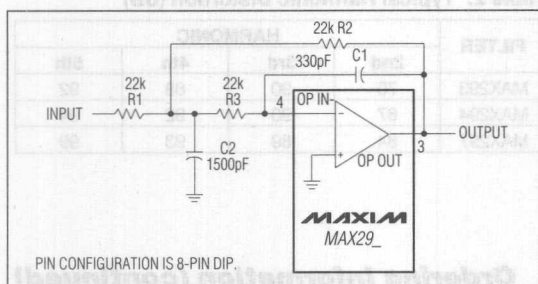

Figure 4. Uncommitted Op Amp Configured as a 2nd-Order Butterworth Lowpass Filter ($F_0 = 10\text{kHz}$)
The uncommitted op amp has its noninverting input connected to the GND pin, and can be used to build a 1st- or 2nd-order continuous-time lowpass filter. This filter is intended for anti-aliasing applications preceding the switched-capacitor filter, but it can be used as a post-filter to reduce clock noise. Figure 4 shows one of many filters that can be built with this op amp: a 2nd-order Butterworth filter with a 10kHz corner frequency and an input impedance greater than $22\text{k}\Omega$. Table 1 gives alternative component values for different corner frequencies of the same Butterworth filter.
Table 1. Component Values for Figure 4's Filter
As the passband ripple of the MAX293/MAX294/MAX297 elliptic filters is of the order of $\pm 0.1\text{dB}$, it is normally appropriate to keep the passband errors of any anti-aliasing filter at or below this level. This is achieved by choosing the corner frequency of Figure 4's Butterworth filter (f_{cB}) to be higher than the corner frequency of the elliptic switched-capacitor filter (f_{cE}) by a factor of 2.5 or more. A factor of 5 or more is recommended to avoid problems with component tolerances, i.e. $f_{cB} > (5)(f_{cE})$.